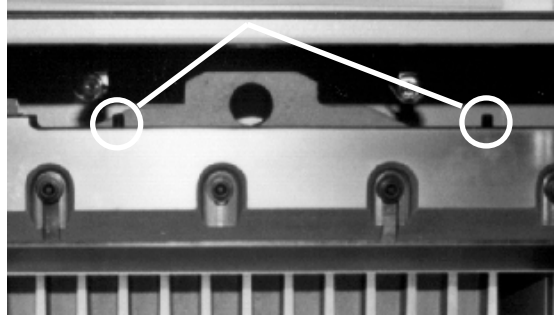

Figure 21
2. Back off the knife adjusting screws on top of the knife bar several turns (Figure 21). A new knife will cut deeper than one that has been ground several times. Failure to back off the screws could damage the knife and/or the cutting stick.
6. Double check to make sure the knife adjusting screws have been backed out all the way (Figure 21, page 42). Guide the blade, left edge first, into the space between the knife bar guide frames on the left. Move the right end of the blade into the machine, under the knife bar slot. Align the lifters with the slots in the knife bar, raise the knife into the knife bar slot as high as it will go and tighten the lifters.